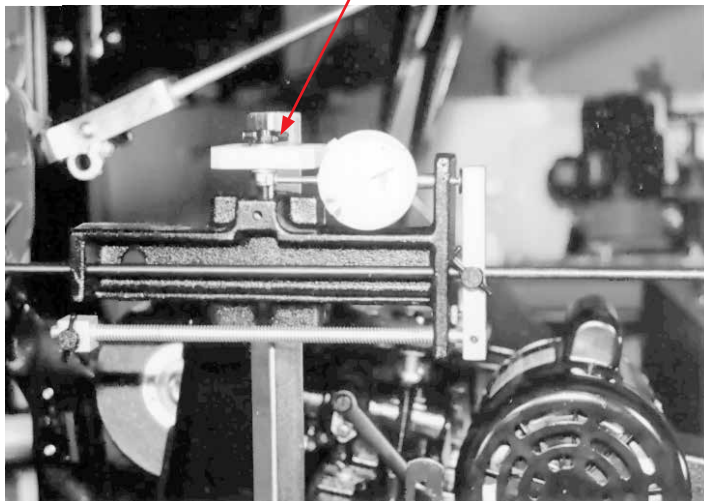

FIG. 47
3. Lower the indicator slide by turning the vertical fine adjustment Knob B until the alignment rod lightly touches the top or bottom of the reel center shaft. See FIG. 47.